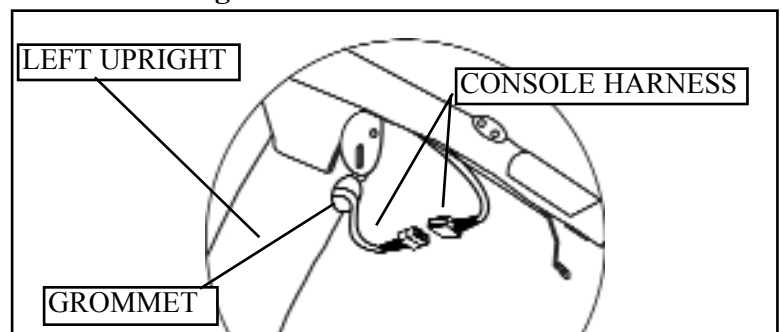

Figure 4A: Wiring Harness Installation
5. Connect the Console Harness together as shown in Figure 4A.